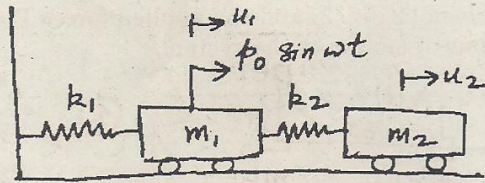

Fig. 6
- (b) Consider the system and excitation shown in Fig. 6. By modal analysis, determine the steady state response of the system.